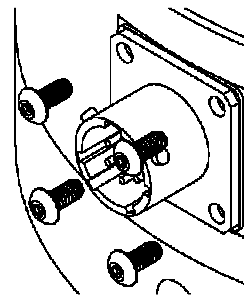

Figure 7 - Remove the #4-40 x 1/4” Button Head Cap Screws
1. Remove the #4-40 x 1/4” button head cap screws from the connector using a 1/16” hex wrench as shown in Figure 7.